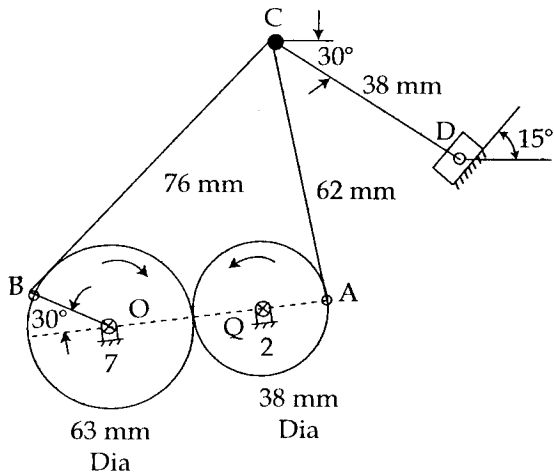

Fig. 2
- (b) Fig. 2 shows Andreau variable stroke engine mechanism in which links 2 and 7 have pure rolling motion. The dimensions of various links are indicated in figure. Determine acceleration of slider D if link 2 rotates at 1000 rpm.